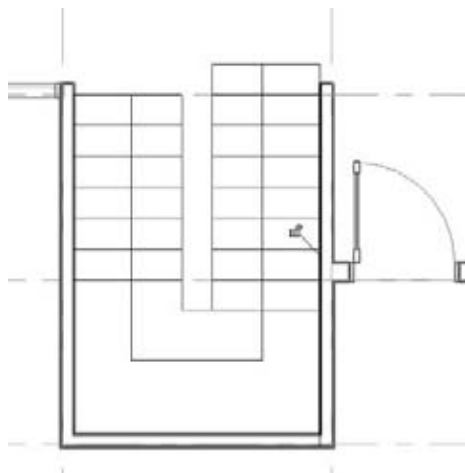

Figure 4.123
3. Use the Align tool to align the left and right boundaries to the wall. Select the Align tool, and then pick the inside edge of the wall on the right, and then the right boundary line of the stairs. Doing so aligns the right run to the wall. Repeat for the left run. Figure 4.123 shows the stairs, properly located.